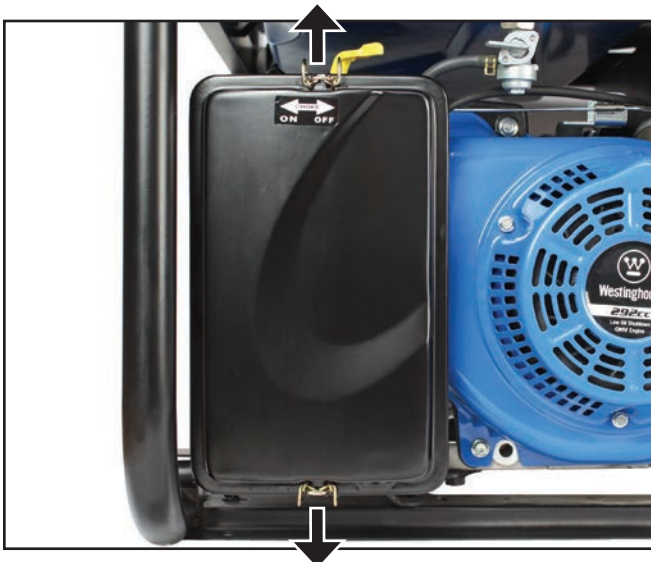

Figure 38 – Removing Air Filter Cover
3. Release the latches at the top and bottom of the air filter assembly (see *Figure 38*).